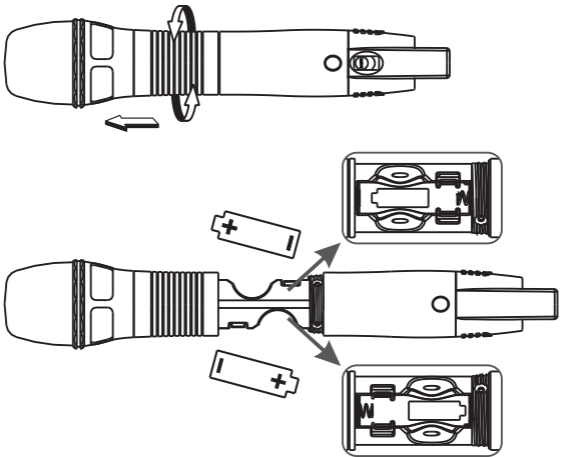

Fig. 4
- (D) Dock the microphone onto a MIPRO exclusive battery charger for charging.
2. ACT-70H, Fig. 4: